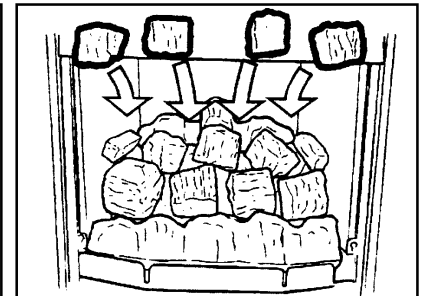

Fig. 8 Third Row of Coals
6. Place the four remaining coals in a row at the back of the firebox compartment. See figure 8.